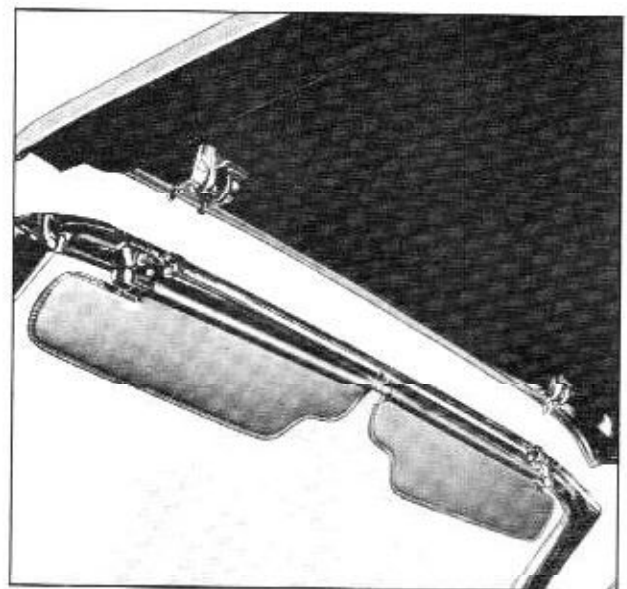

Fig. 15-64 Disengaging Top From Header
3. Raise front of top (Fig. 15-64) to disengage front roof rail from windshield header.